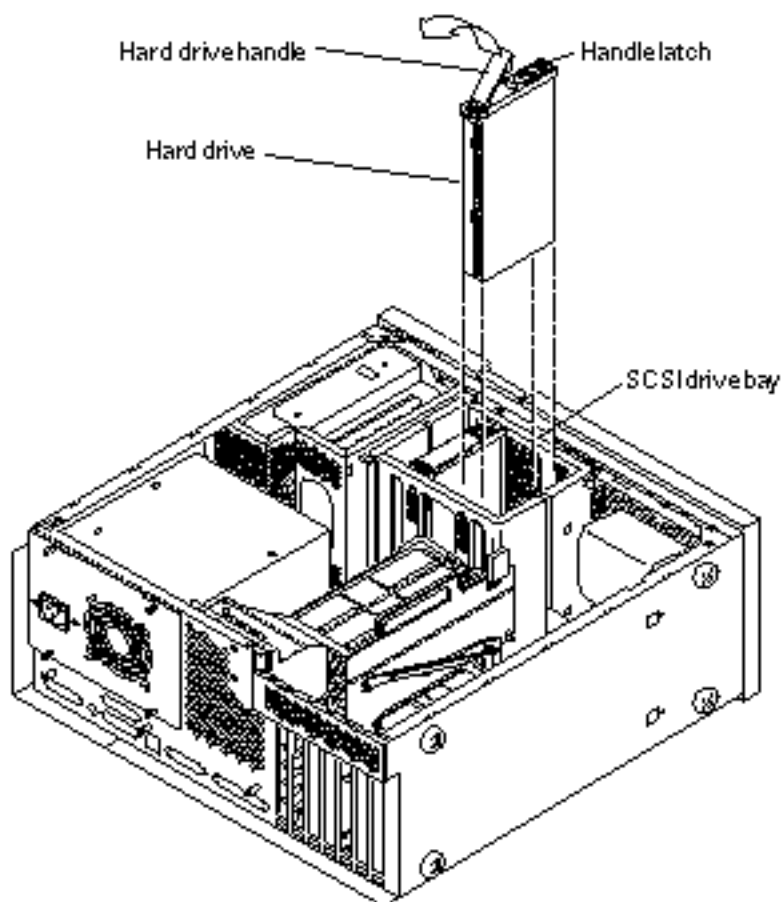

Figure 1-8 Removing and Replacing a Hard Drive
7. Remove the hard drive(s) (Figure 1-8):
6. Replace the hard drive(s) (Figure 1-8):